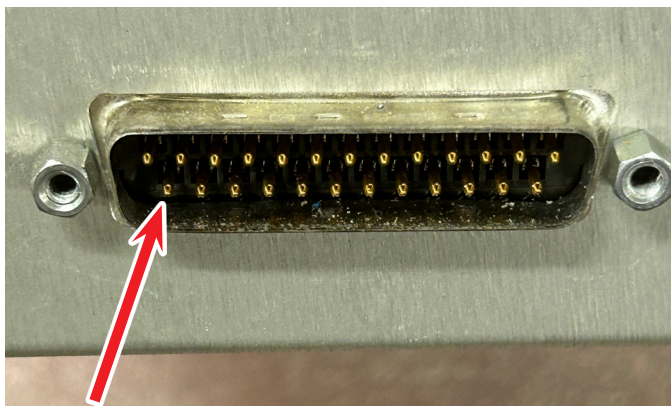

FIGURE 4—Look closely at the pins in the male connector for any damaged pins.
6. Another cause of stepper motor malfunction is if one or more of the pins in the male 25 DP connector (parallel port connector) get bent or broken and do not make complete contact with the pinhole in the female connector. Check the pins inside the male connector to see if any of them have been bent and are not going into the female connector correctly (see Figure 4).